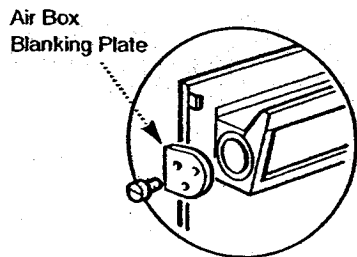

Fig. 46
1. Remove the left or right hand air box blanking plate, as appropriate, from the back plate air box by releasing the three screws (Fig. 46).